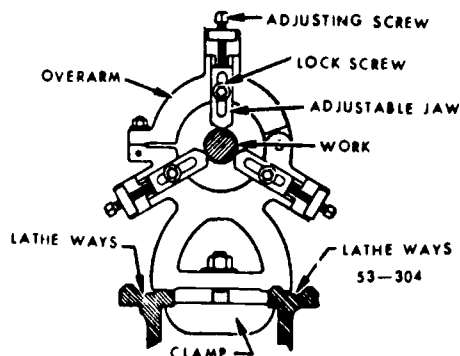

Figure 5-60 Center rest.
**Exercises (272):**
**Center Rest.** The center rest consists of a frame and three adjustable jaws, figure 5-60, which support the work at some point along the axis of